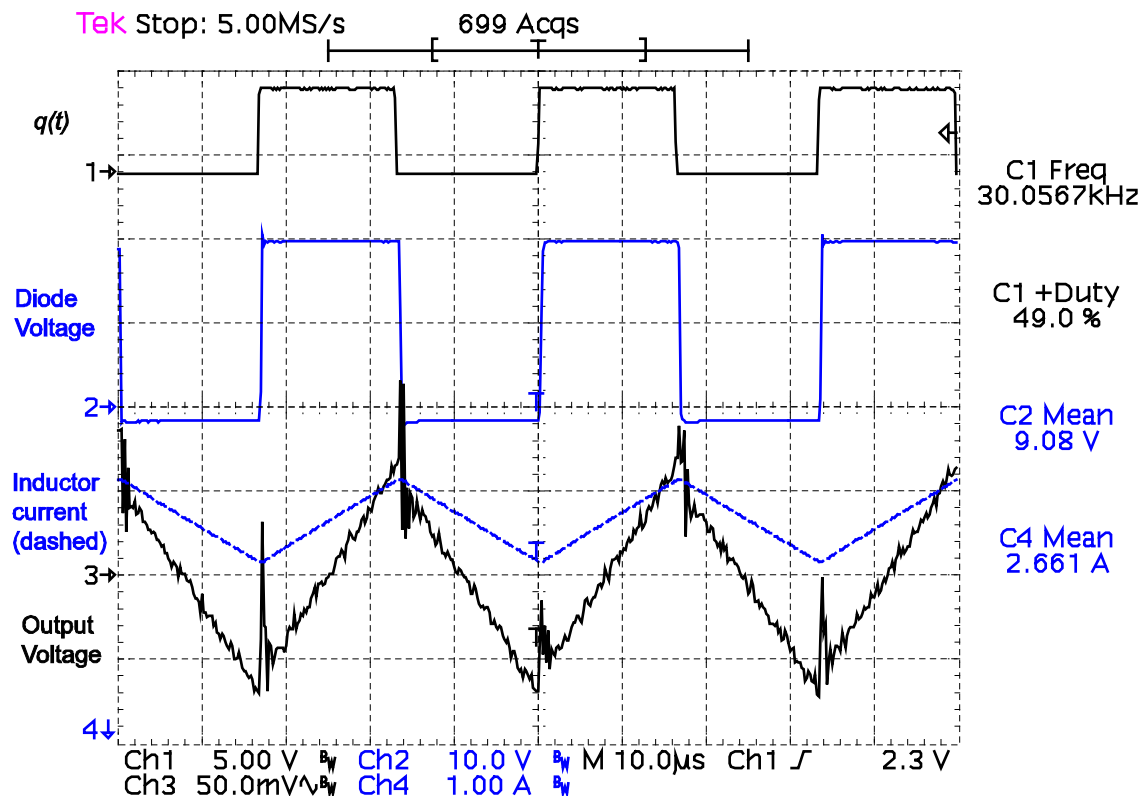

Figure 25: Buck Converter typical waveforms
5. Switch on power to the FET Control Box. Verify expected results shown in Table 7 and waveforms as shown in Figure 25. Verify that the diode voltage is in-phase with the $q(t)$ signal and dips negative while $q(t)$ is low. The output voltage is “ac” coupled and is in-phase with the inductor current. The inductor current is rising for positive diode voltage and falling for negative diode voltage. All traces are stable and do not jitter or jump.